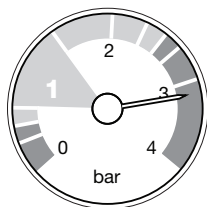

Fig. 3
3. A pressure of 3 or greater indicates a fault. The safety pressure relief valve will operate at a pressure of 3 (Fig. 3). **It is important that your Installer or Service Engineer is contacted as soon as possible.**